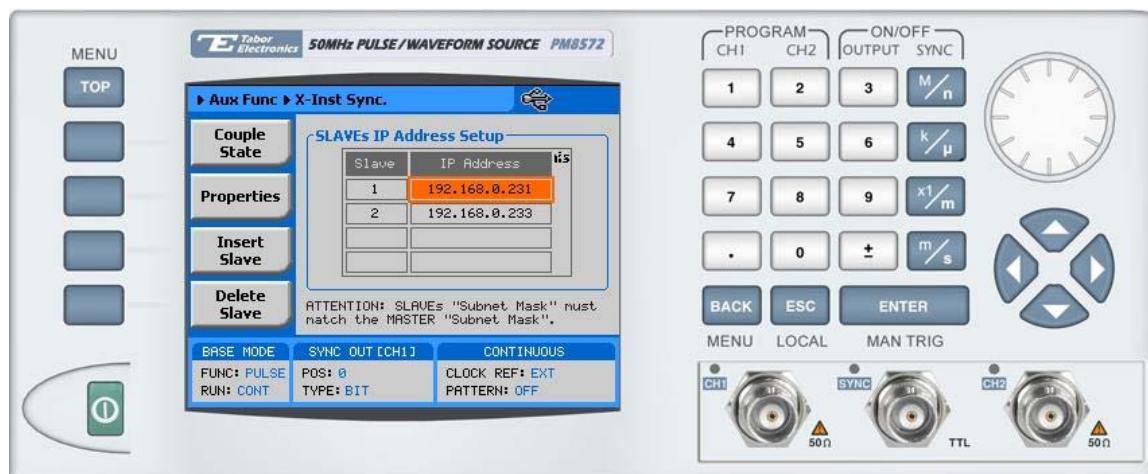

Figure 3-94, Programming Slaves IP Address
Slave units are identified by their LAN address. Press the Slaves IP Address soft key button to access the identification menu as shown in Figure 3-94.
9. Slave channels can be delayed in reference to the master channels by a pre-defined number of sample clocks. Observe Figure 3-94 and access the Start Phase field in the Synchronization Properties group. The start phase defines the delay time that the instrument will hold off before it will start generating the output waveform. Setting resolution is 20 ns and the delay can be programmed from 200 ns to 20 s.